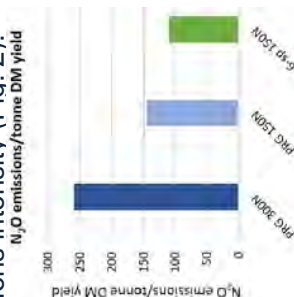

Fig. 2 Lower N_2O emissions intensity from clover-based mixtures
- Clover-based swards (grass-clover or multi-species) can displace nitrogen fertiliser use, reduce carbon footprint, and reduce N_2O emissions and emissions intensity (Fig. 2).